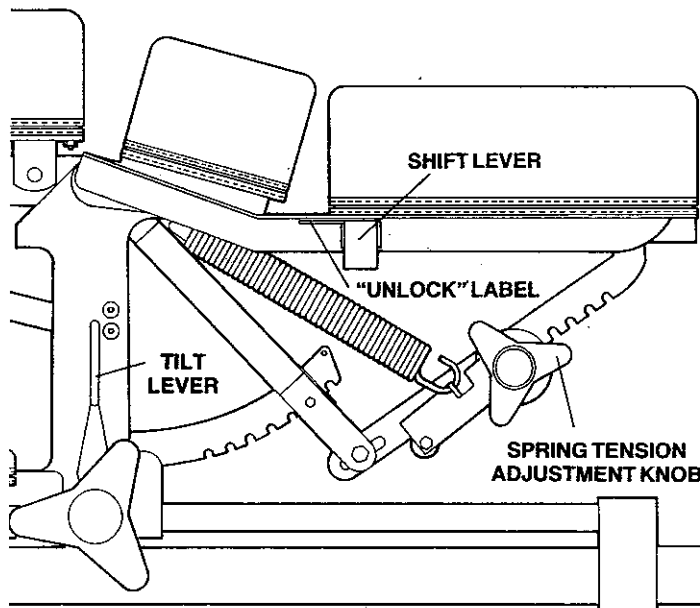

Figure B-4
To adjust the angle of the abdominal cushion, turn the tilt lever (Figure B-4) toward the headpiece with one hand and lift the cushion with the other hand. When the cushion reaches the desired angle, release the lever.
To allow the cushion to swing down, push the shift lever rod (Figure B-4) from the left side or pull it from the right side. If the cushion is depressed to the lowest position, a spring-loaded latch (Figure B-4) will lock the cushion in that position, and it will be necessary to operate the shift lever rod before raising the cushion. To lock the cushion back in the highest position, swing it up as far as it will go, then pull the rod from the left or push it from the right. The shift lever rod is labeled to indicate when cushion is unlocked.
a) increase tension by turning the adjustment knob (Figure B-4) in the direction that moves the adjusting mechanism toward the cushion, or